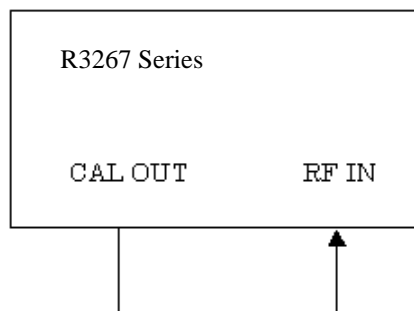

Figure 6-1 Setup of FM Deviation Test
1. Connect equipment as shown in Figure 6-1.